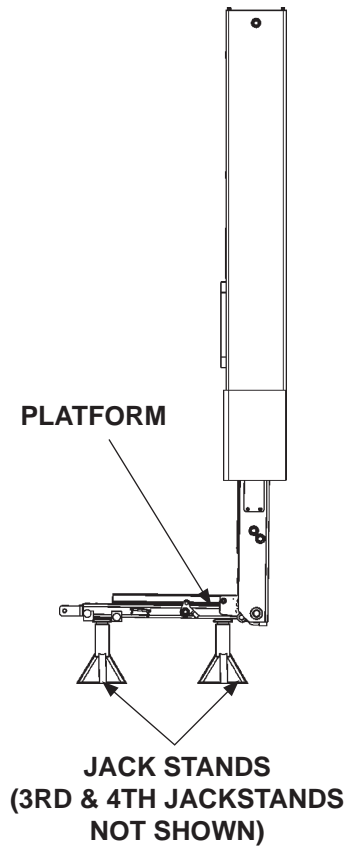

FIG. 24-1
3. Raise the platform (**UP**) slightly and place 2 more jack stands near the inboard edge (**FIG. 24-1**).